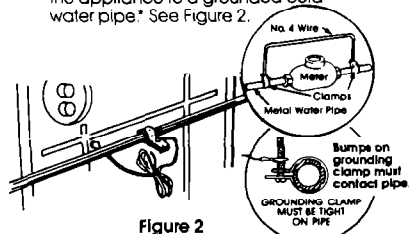

Figure 2
For added personal safety, use clamp and green colored copper grounding wire. Connect the grounding wire (#18 minimum) from the external grounding connector on the back of the appliance to a grounded cold water pipe.* See Figure 2.
* Grounded cold water pipe must have metal continuity to electrical ground and not be interrupted by plastic, rubber or other electrical insulating connectors such as hoses, fittings, washer or gaskets (including water meter or pump). Any electrical insulating connector should be jumped as shown in Figure 2 with a length of No. 4 wire securely clamped to bare metal at both ends.
If this is done, you **must** connect a separate copper grounding wire (#18 minimum) to a grounded cold water pipe* by means of a clamp and then to the external grounding connector screw. **Do Not ground to a gas supply pipe or hot water pipe.** Do not connect the power cord to outlet until the appliance is permanently grounded. See Figure 2.